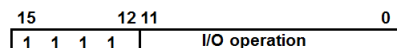

Figure 2: Instruction format.
- Make sure that you use the same instruction format of the textbook that is given in Figure 2.